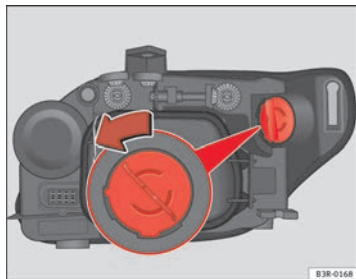

Fig. 195 Indicator bulb
- Turn the bulb holder anti-clockwise, pulling it by the grip ⇒ fig. 195 and removing the bulb holder and the bulb.